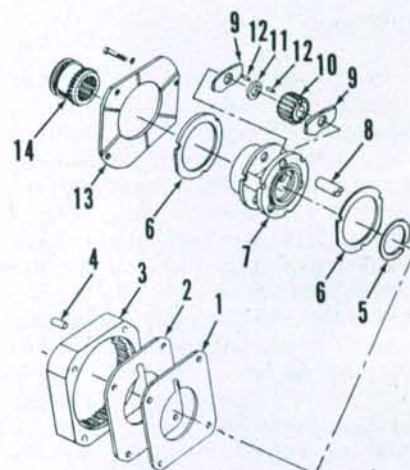
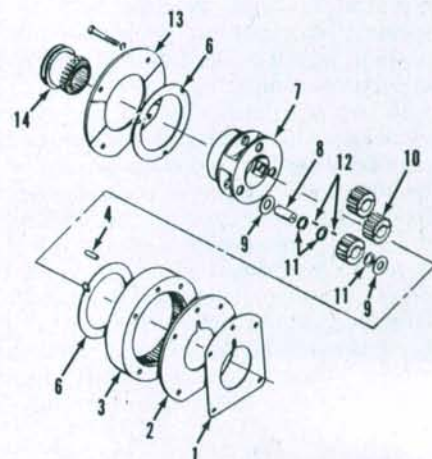
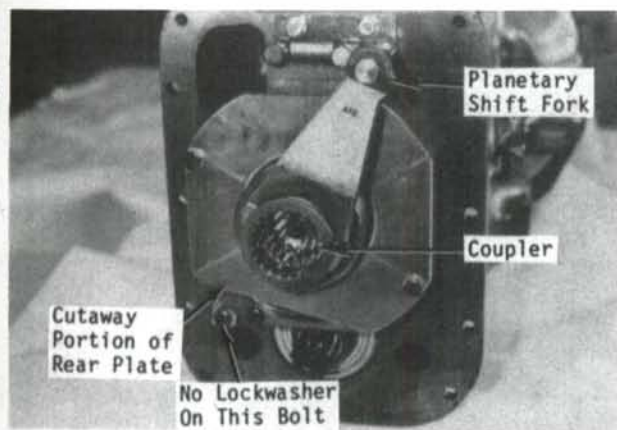

Fig. 183—Exploded view of high/low range planetary unit used on all models except MF255. See Fig. 184 for MF255 models.
Fig. 184—Exploded view of high/low range planetary unit used on MF255 models. Refer to Fig. 183 for legend.
Fig. 185—The cutaway (slanted) section of rear plate should be over the lower left mounting screw.
160. R&R AND OVERHAUL. To remove the planetary unit, first separate transmission from differential housing as outlined in paragraph 156. Remove shift fork and coupler from rear of planetary. Remove the four retaining cap screws and withdraw rear cover (13—Fig. 183 or Fig. 184), rear thrust ring (6) and planet carrier (7). Pry planetary ring gear (3) with dowels from rear of housing. Remove planetary front cover (2) and shim (1).
When reassembling, be sure to account for all of the needle rollers (12). On Model MF255, there are two rows of 27 rollers each separated by three spacer washers (11—Fig. 184). On all other models, there are two rows of 16 rollers each separated by one spacer washer (11—Fig. 183). Use petroleum jelly to hold rollers in place while pressing planet pins into carrier. Gap in snap
When reinstalling planetary, be sure that front plate (1—Fig. 183 or Fig. 184) and rear plate (13) are positioned with grooved side toward pinion carrier. Be sure that slots in front plate and shim (1) are aligned and are toward the top when installed on transmission. Use petroleum jelly to hold thrust rings (6) in place. Make certain that tangs of thrust rings engage notches in pinion carrier and that brass side faces away from carrier. The cutaway section or slanted section of rear plate (Fig. 185) should be positioned at lower left-hand corner of planetary, and no lockwasher